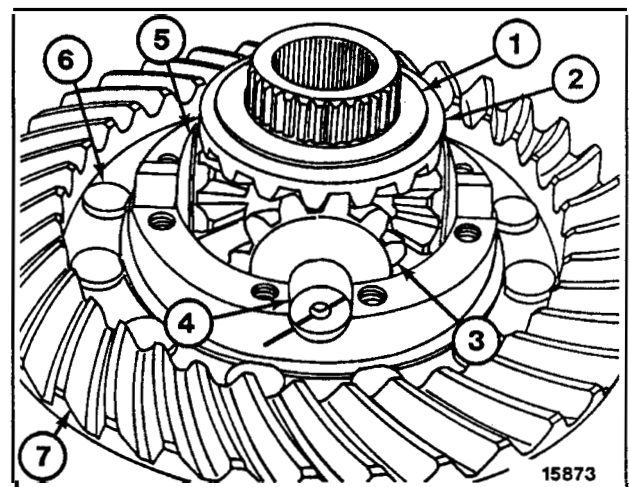

Figure 87
- Remove bronze colored side gear thrust washer (1, Figure 87) and side gear (2) from bevel side pinion gears (3). Remove thrust washer (1) from side gear if necessary.
- Remove differential spider (4) and bevel side pinion gears (3) with pinion thrust washers (5) from flanged case half. Remove thrust washers and bevel gears from spider if replacement is necessary.
- Remove hex nuts, ring gear bolts (6) and ring gear (7) from flanged case half.